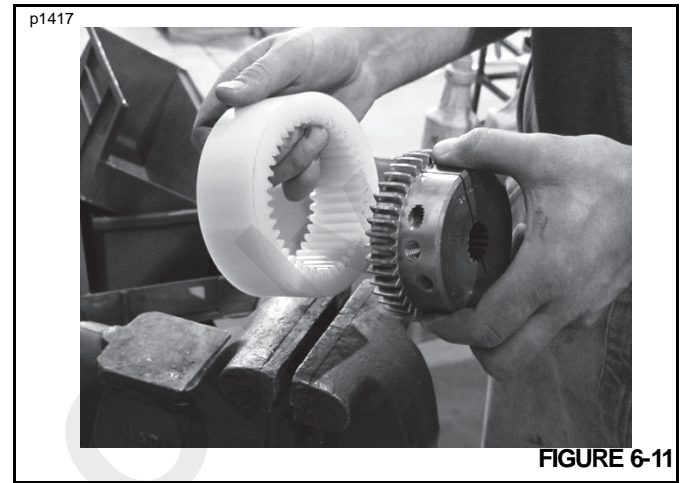

FIGURE 6-11
8. Test fit the pump coupling hub (6, Figure 6-4) onto the pump shaft. It should slide on by hand. Then, insert the pump coupling hub (6) into coupling sleeve (4). See Figure 6-11.